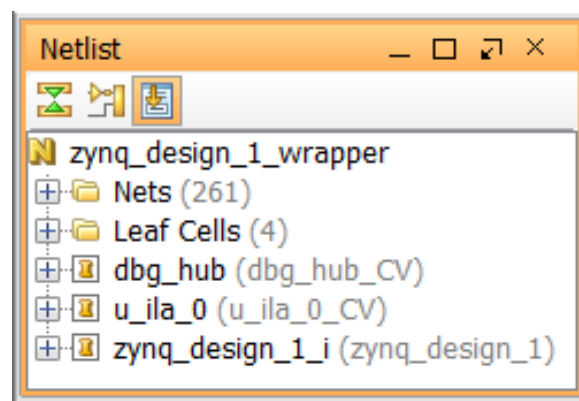

Figure 29: Implemented Design
7. In the implemented design, go to the **Netlist** window to see the inserted ILA and Debug Hub (dbg_hub) cores in the design (FIGURE 29).